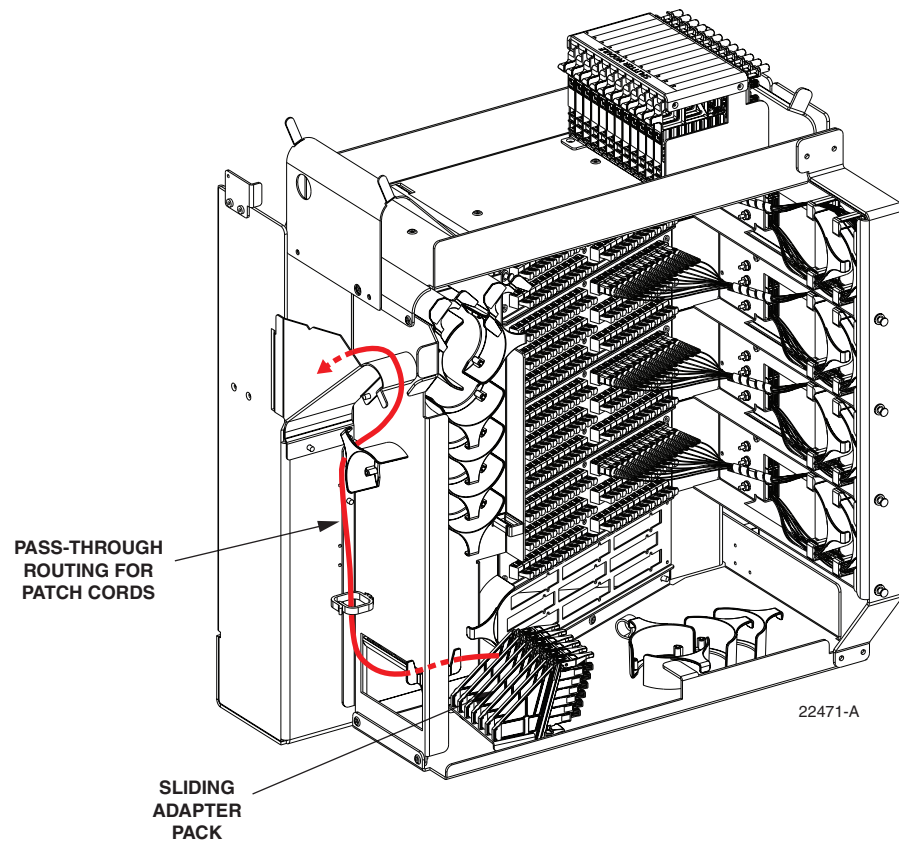

Figure 14. Routing Pass-Through Patch Cord From Sliding Adapter Pack
11. Route the pass-through patch cord to the front side of the swing-out assembly as shown in Figure 14.